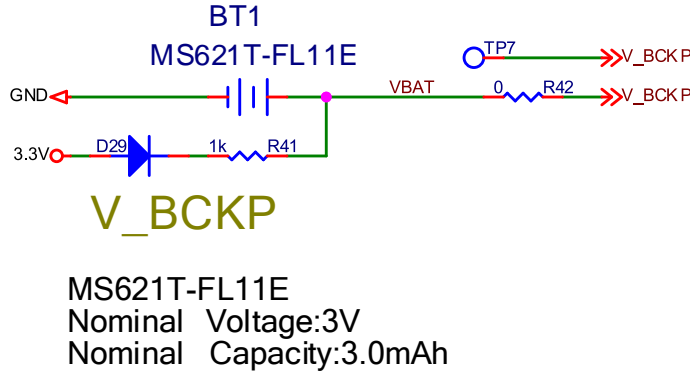

Figure 3-5 Backup Power Circuit
- When the backup battery supplies power to V_BCKP, the battery charging circuit should be designed to prevent reverse current to ensure that the battery only supplies power to V_BCKP and the current does not flow back into the 3.3 V power domain, as the D29 shows in Figure 3-5.
- According to the maximum charging current of the battery, a current-limiting resistor should be added, as the R41 shows in Figure 3-5.